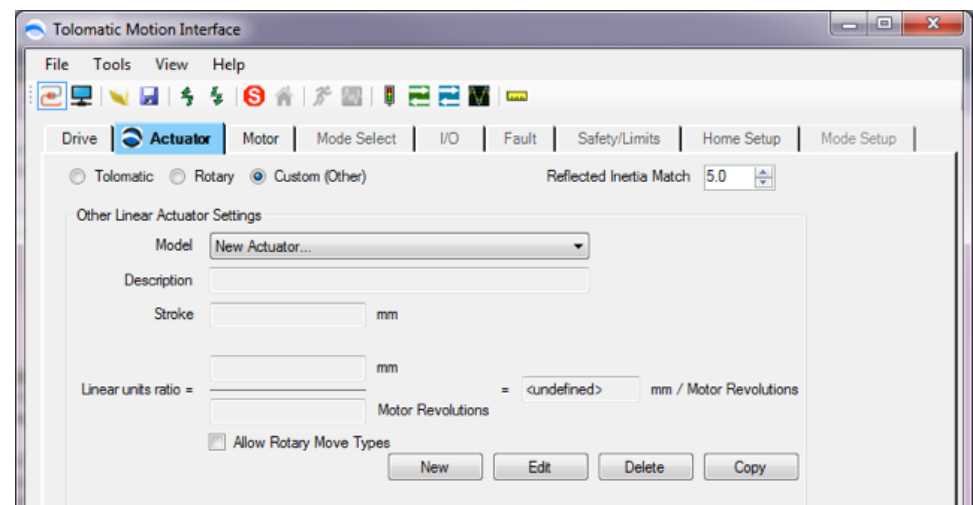

Figure 7-4: Selection of Other Actuators
1. If no Other Actuators have been created there will be no selections under the Models drop down. In this case, the user must click the New button at the bottom of the screen (see Figure 7-4).